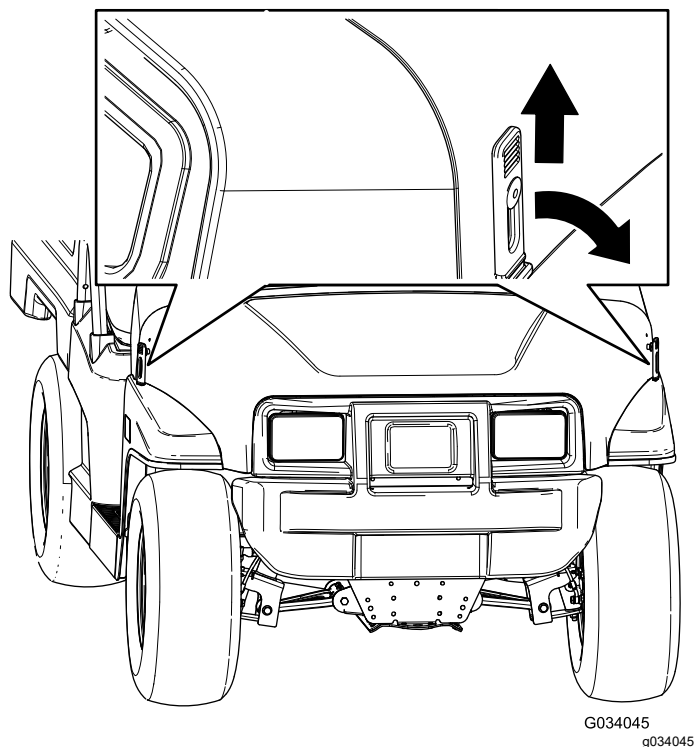

Figure 31
1. Lift up the handle of the rubber latches on each side of the hood (Figure 31).
2. Secure the hood by aligning the rubber latches onto the latch anchors on each side of the hood (Figure 31).